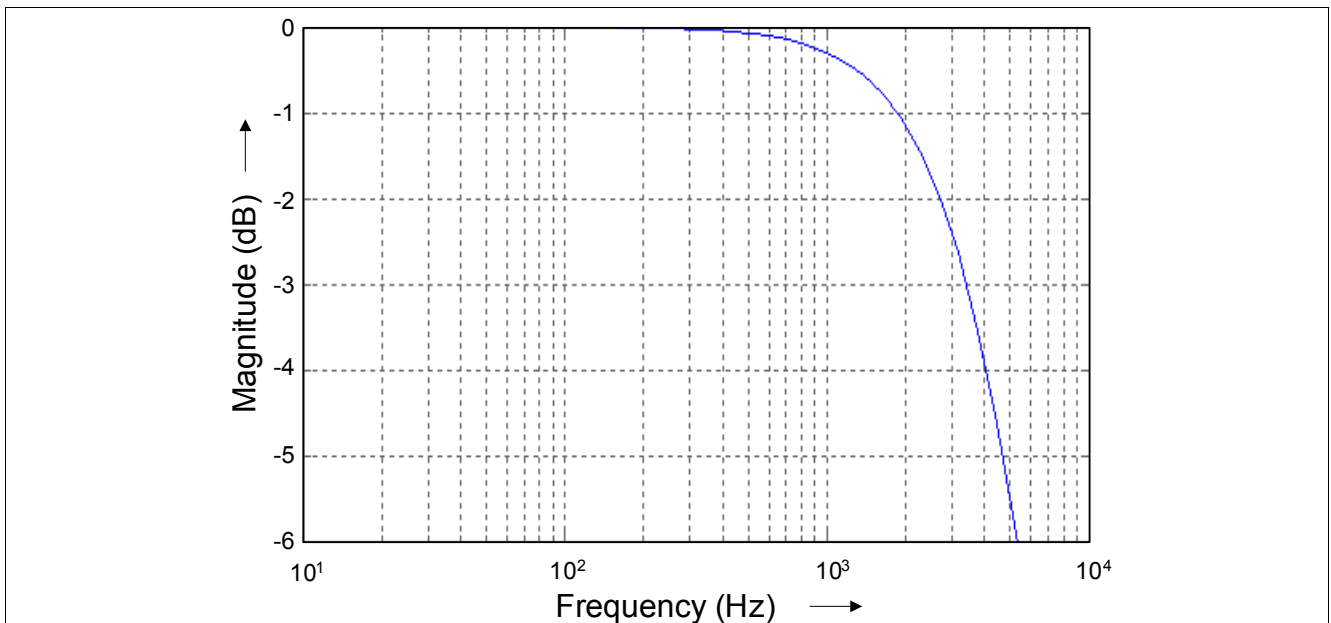

Figure 7-2 DAC Input Filter (Magnitude Plot)
7) More information, see Figure 7-2 “DAC Input Filter (Magnitude Plot)” on Page 16.